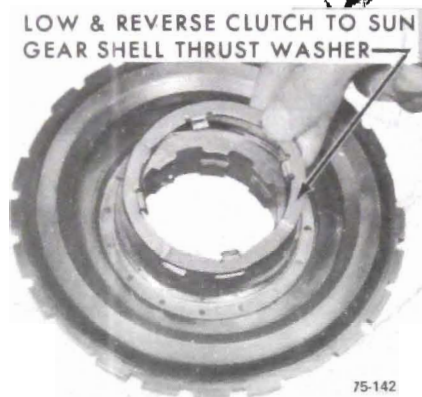

Figure 75-228
4. Install low and reverse clutch to sun gear drive shell thrust washer. See Figure 75-228.